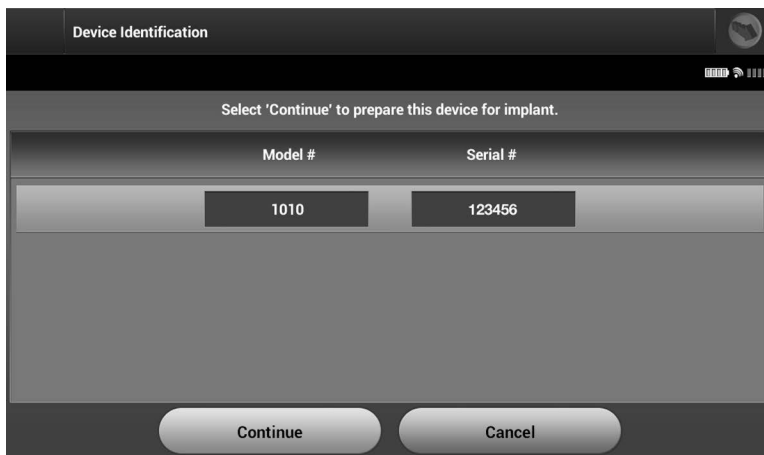

Figure 16: *Device Identification screen*
2. Once communication is established with the SQ-RX device, the Device Identification screen appears (Figure 16).